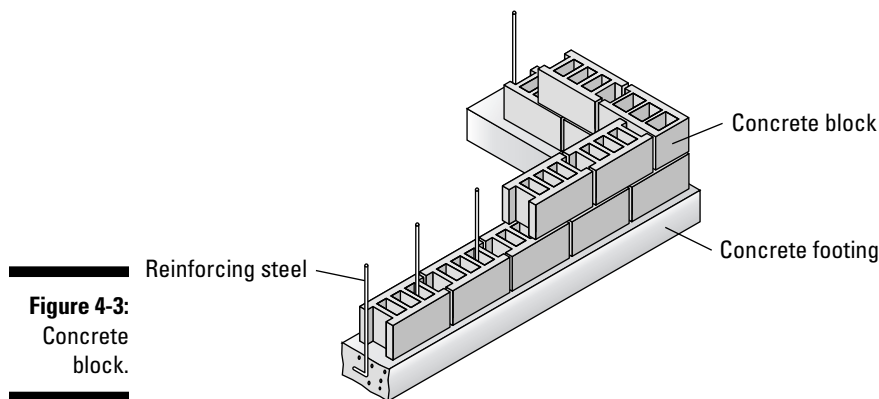

Figure 4-3:
- ✓ **Concrete block (see Figure 4-3):** Concrete-block foundations are very popular because they can be built by anyone who can lay one block atop another (making the concrete block the DIYer's foundation material of choice). Unlike brick, large holes within the blocks allow for steel reinforcing and mortar — both of which add super strength to the finished wall. Each block is joined with mortar on all four sides. Mortar has a tendency to deteriorate or crack (or both) over time and needs to be regularly maintained. Cracks in mortar can allow leaks.